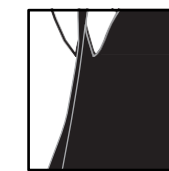

Fig. 1
1. Go around the pressure detector (Fig.1) by sensing it, once you feel a thickness, on the edge of the detector, open the detector by the part that is held by double-sided Velcro.